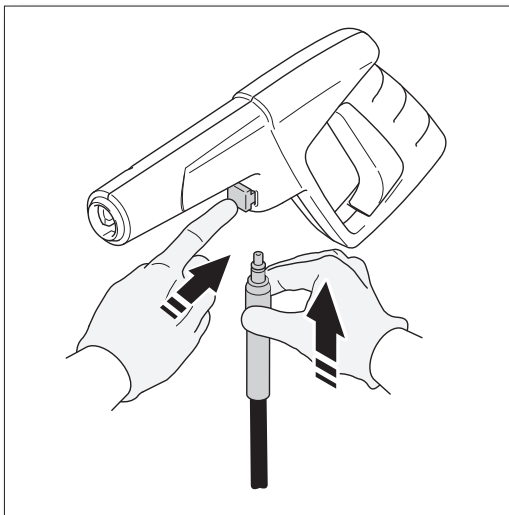

Fig. 5
- Connect the other end of the high pressure hose to the spray gun by inserting the silver metal tip of the high pressure hose into the fitting just ahead of the trigger guard. It will lock into the spray gun with a “click” (**Fig. 5**). Confirm the hose is locked into the spray gun by pulling slightly on the hose. The hose is now securely attached to the spray gun.